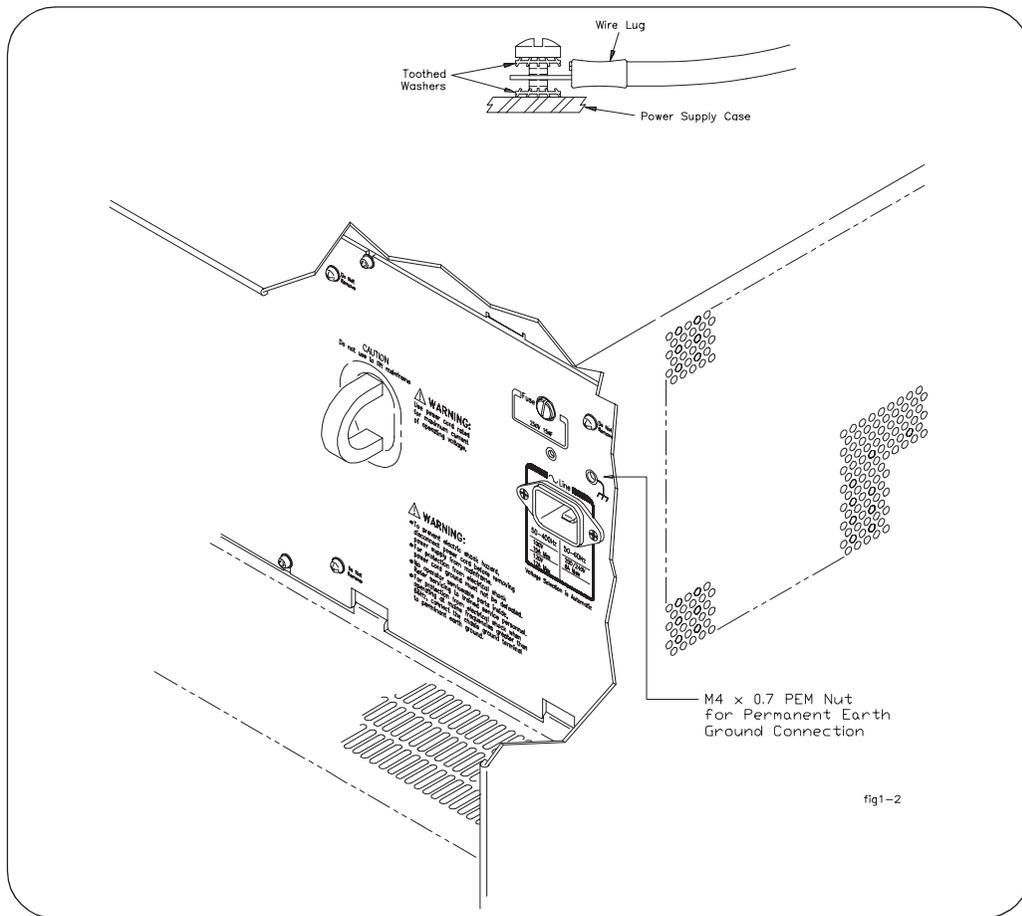

Figure 1-3. Connecting the HP E8400A to a Permanent Earth Ground
1. Connect a 16 AWG (1.3 mm or larger) wire to the PEM nut shown in Figure 1-3. The wire must be green with a yellow stripe, or bare (no insulation). Use a m4 x 10 screw, grounding lug, and toothed washers (or toothed lug) as shown in the Figure.